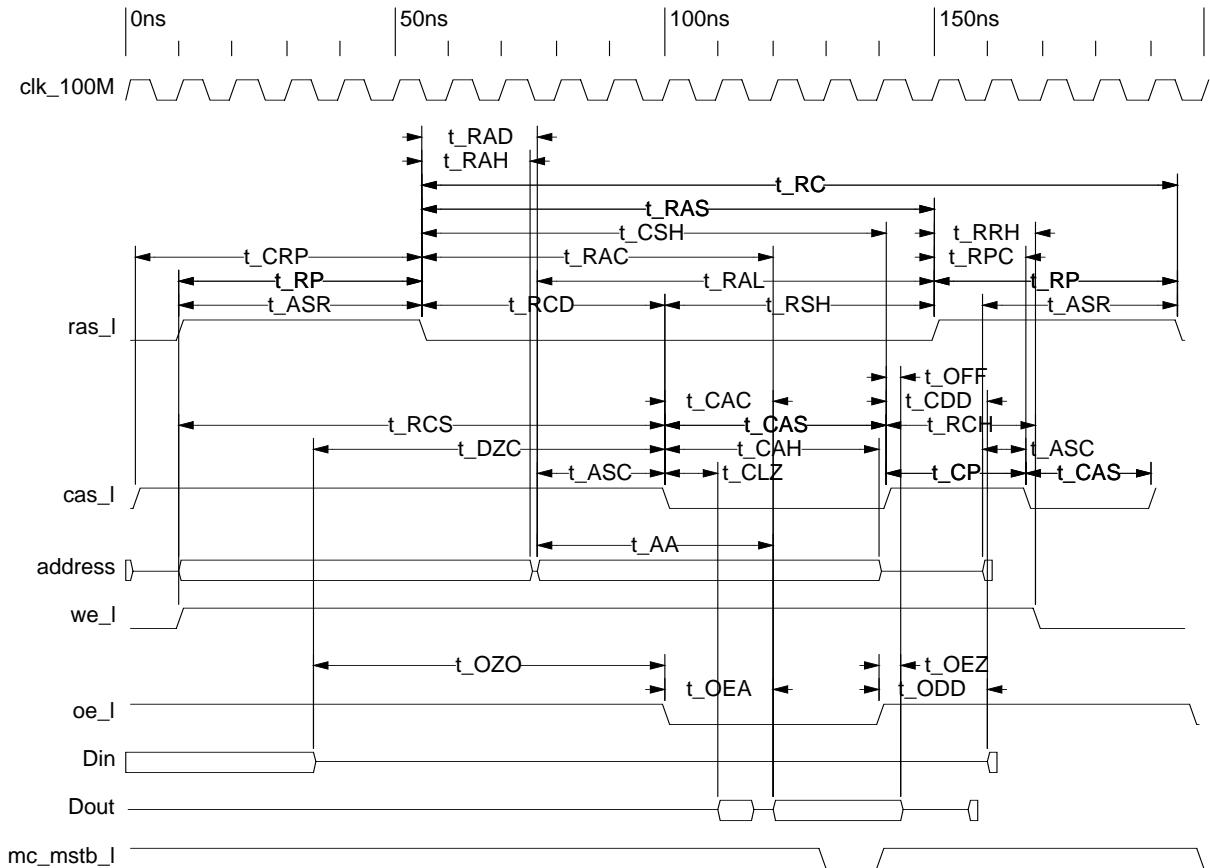

Figure 4. DRAM Read Cycle (100 MHz Clock)
1. The timing diagrams in *Figure 4* through *Figure 13* reflect a SP\_SEL[2:0] of 010 for 100 MHz operation.